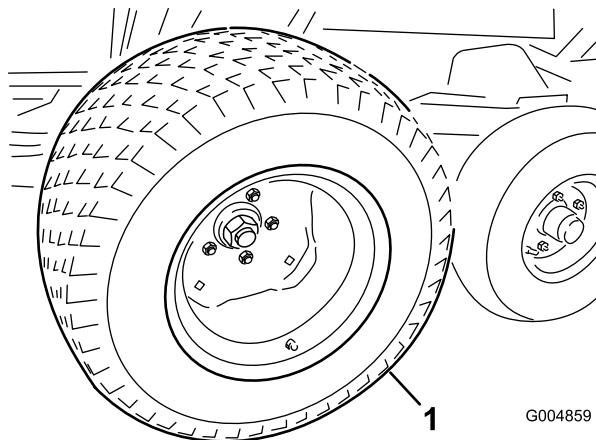

Figure 111
21. With the winter frame against the rear frame, raise the floor jack enough to remove the summer drive tires (Figure 111). Install the winter tires with 2 lug nuts per side.